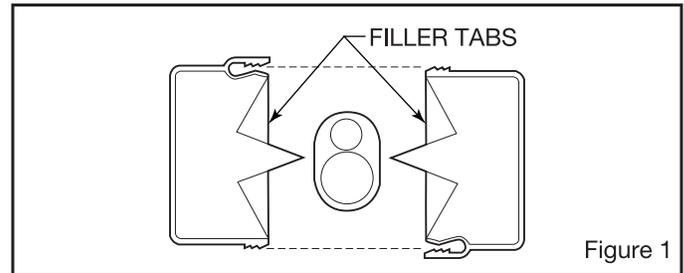
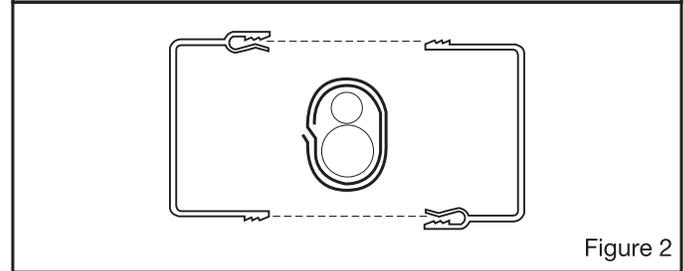

Figure 1
Figure 2
3. Align cover halves centrally over connector such that inner and outer teeth interlock and body of connector lies between foam pads (See figure 1). For HTC2 and HTC2S, align cover with wrapped connector in the center (See figure 2).
1. HTC2 and HTC2S use insulation wrap instead of end cushions for inner seal (See figure 2).